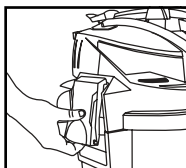

FIGURE 1
1. Pull lid latches out from bottom, lift up on bottom of latch and bring down to side of tank. **FIGURE 1.**